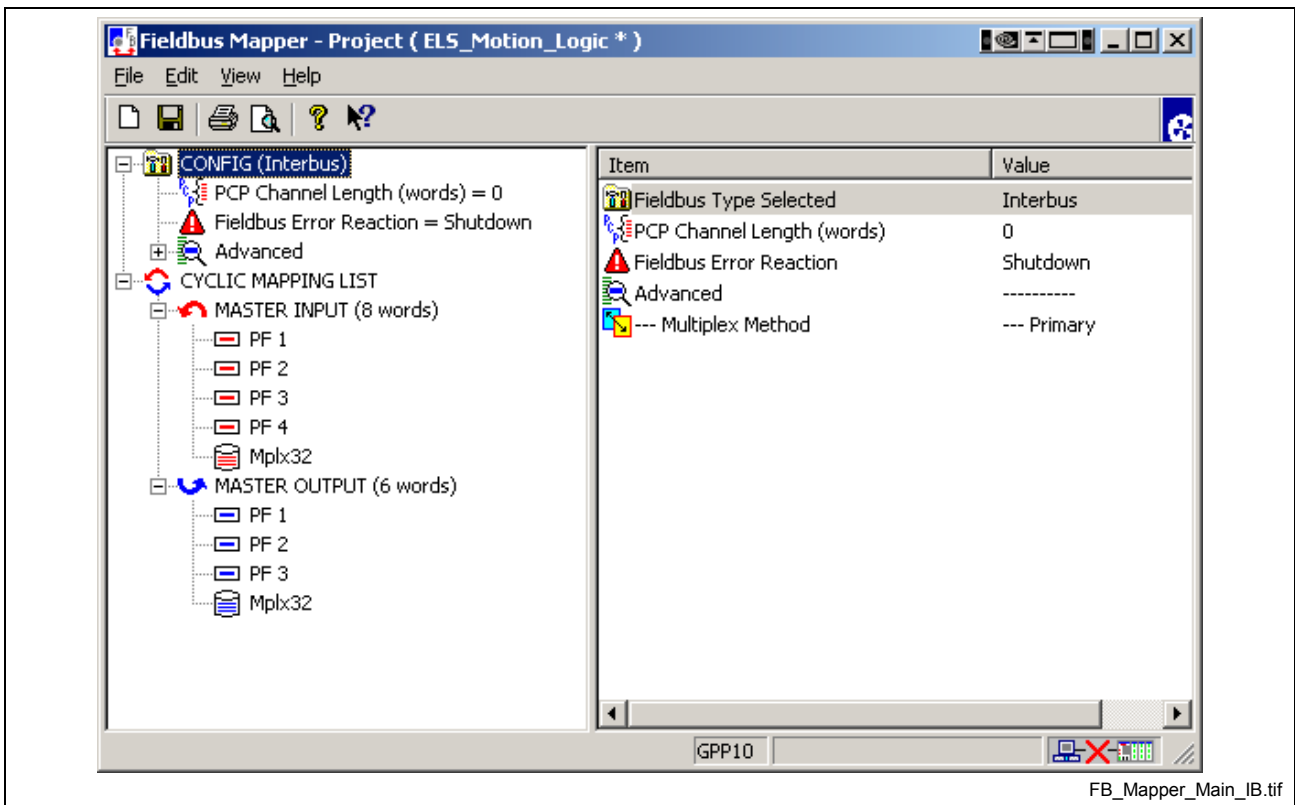

Fig. 7-160: FBMapper – Project Window (Complete)
3. Click **Open**. The main Fieldbus Mapper window appears, which lists the configuration information. Refer to Fig. 7-160.